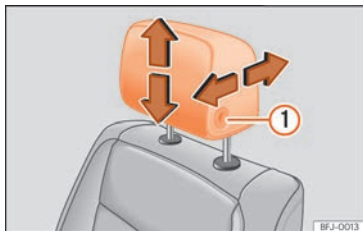
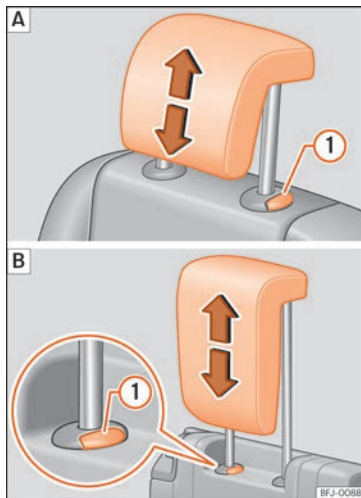

Fig. 142 Adjusting the front head restraints.
Fig. 143 Adjusting the rear head restraints: **A** Second row of seats, **B** third row of seats.
- Move the head restraint up or down in the direction of the corresponding arrow. Regarding the rear head restraints, to both raise and lower, press the button »» Fig. 142 ①; for the rear head restraints, it is only necessary to press the button »» Fig. 143 ① to lower them »» ⚠ in Introduction on page 150.
- Move the head restraint forward or back in the direction of the corresponding arrow while pressing the button »» Fig. 142 ①.